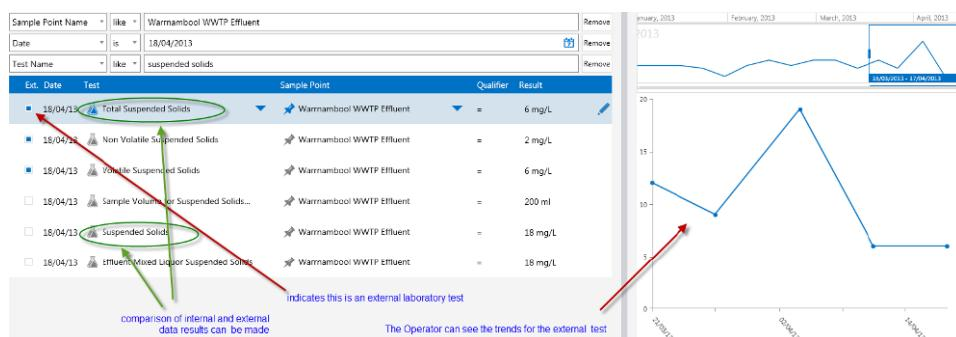

Figure 9: *External laboratory data can be easily identified and comparisons can be made with in-house data*
7. Viewing external laboratory data. Aquantify also houses external laboratory data, which is imported into the system. This allows for comparison of in-house testing results with external laboratory results. External data is easily distinguishable from in-house data by the external “dot” (Figure 9). An operator can filter this data in or out (Figure 10). This data can be easily added into reports if required.